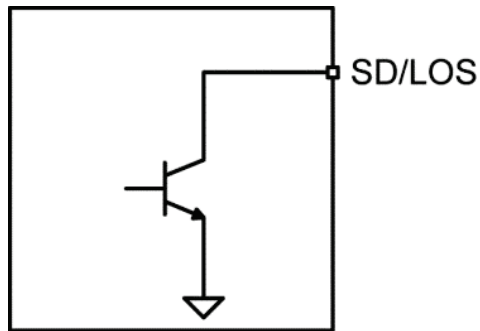

Figure 4. Typical SD/LOS Output Structure
The SY88073L generates a user-selectable (SD/LOS\_SEL pin) signal detect (SD) or loss of signal (LOS) open-collector TTL output, as shown in Figure 4. LOS is used to determine whether the input amplitude is too small to be considered as a valid input. LOS asserts high if the input amplitude falls below the threshold set by SD/LOSLVL and de-asserts low otherwise. LOS can be fed back to the JAM input to perform the SQUELCH function and to maintain output stability under a LOS condition. JAM de-asserts the true output signal low without removing the input signals. Typically, 4dB LOS hysteresis is provided to prevent chattering.